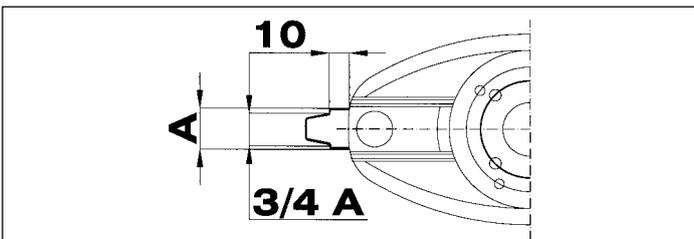

Fig. 19
- **they are worn:** if the width of the knife 10 mm / 0.39 inches - from the disc is $\frac{3}{4}$ of its original width (fig.19).